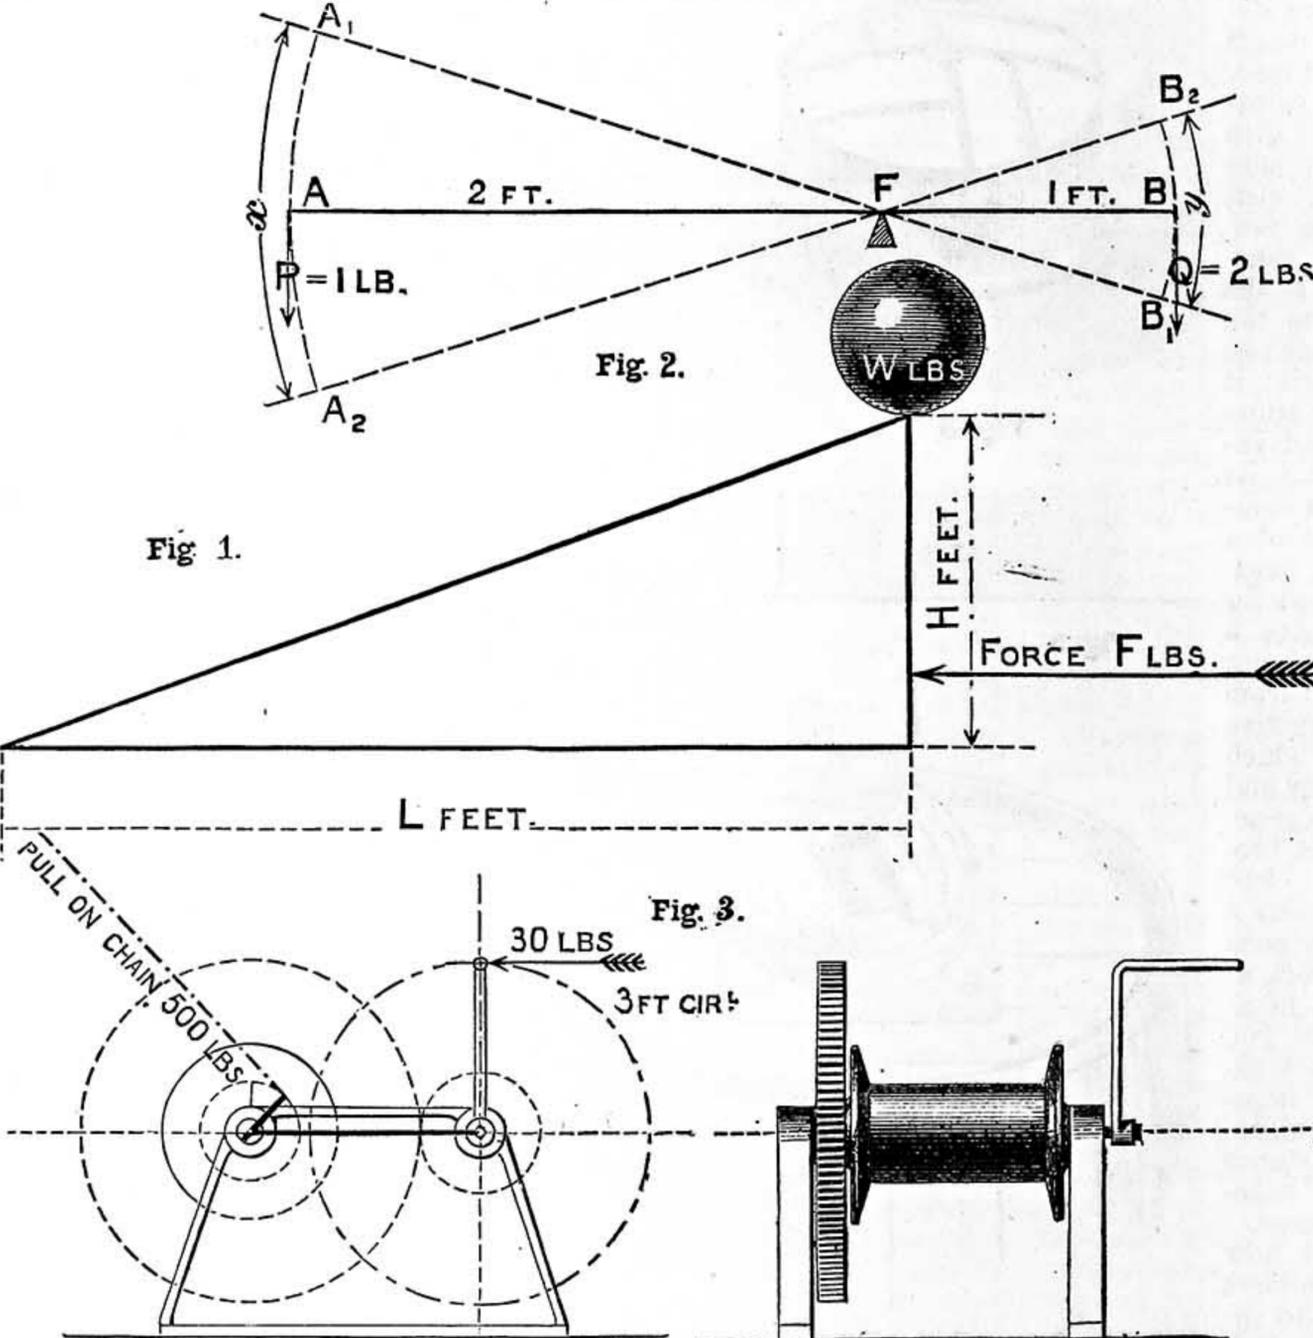

Fig. 1.—Wedge. Fig. 2.—Arms describing Arcs. Fig. 3.—Train of Spur Wheels.
1. *The Wedge.*—Here we have, in Fig. 1, a wedge having a length of L ft. and a height of H ft. This constitutes our machine, and by applying a force F to it, we force it through a distance L , doing, thereby, an amount of work equal in foot-pounds to $F \text{ lbs.} \times L \text{ ft.}$, whatever they happen to be. But the weight (w) under which the wedge is driven is, during this time, raised a com-